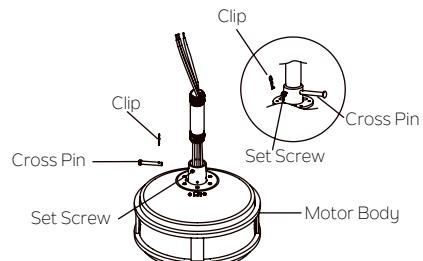

Fig. 8
**Step 4.** Loosen the two set screws and remove the clip and cross pin from the top coupling of the motor body. Carefully feed the fan wires up through the downrod. Thread the downrod onto the motor coupling until the cross pin holes are aligned. Next, replace the cross pin and clip, and tighten both set screws. (Fig.8)